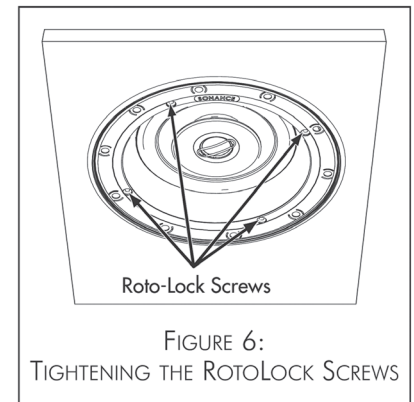

FIGURE 6: TIGHTENING THE ROTOLOCK SCREWS
5. Tighten the screws on the front of the speaker baffle. The Roto-Lock toggle feet will automatically rotate into position and begin clamping the speaker (Figure 6). When you notice resistance on the screws the speaker has been clamped successfully.